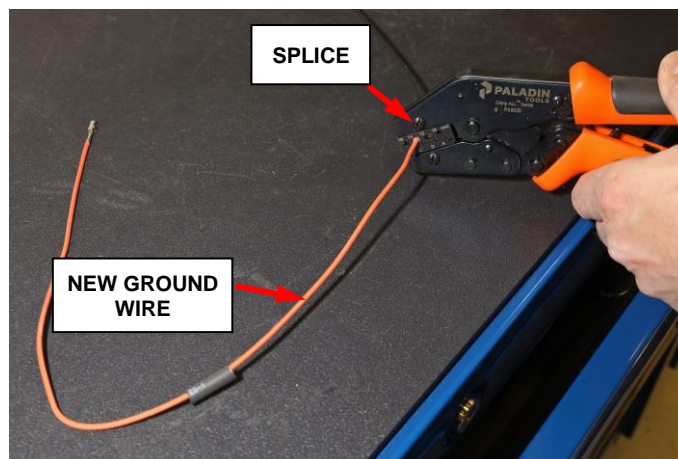

Figure 17 – Splicing New Ground Wire
- i. Using the new ground wire from the kit, and in the same technique shown in Steps 5a through 5g, splice the new wire to the cut wire on the harness side from step h (Figure 17).